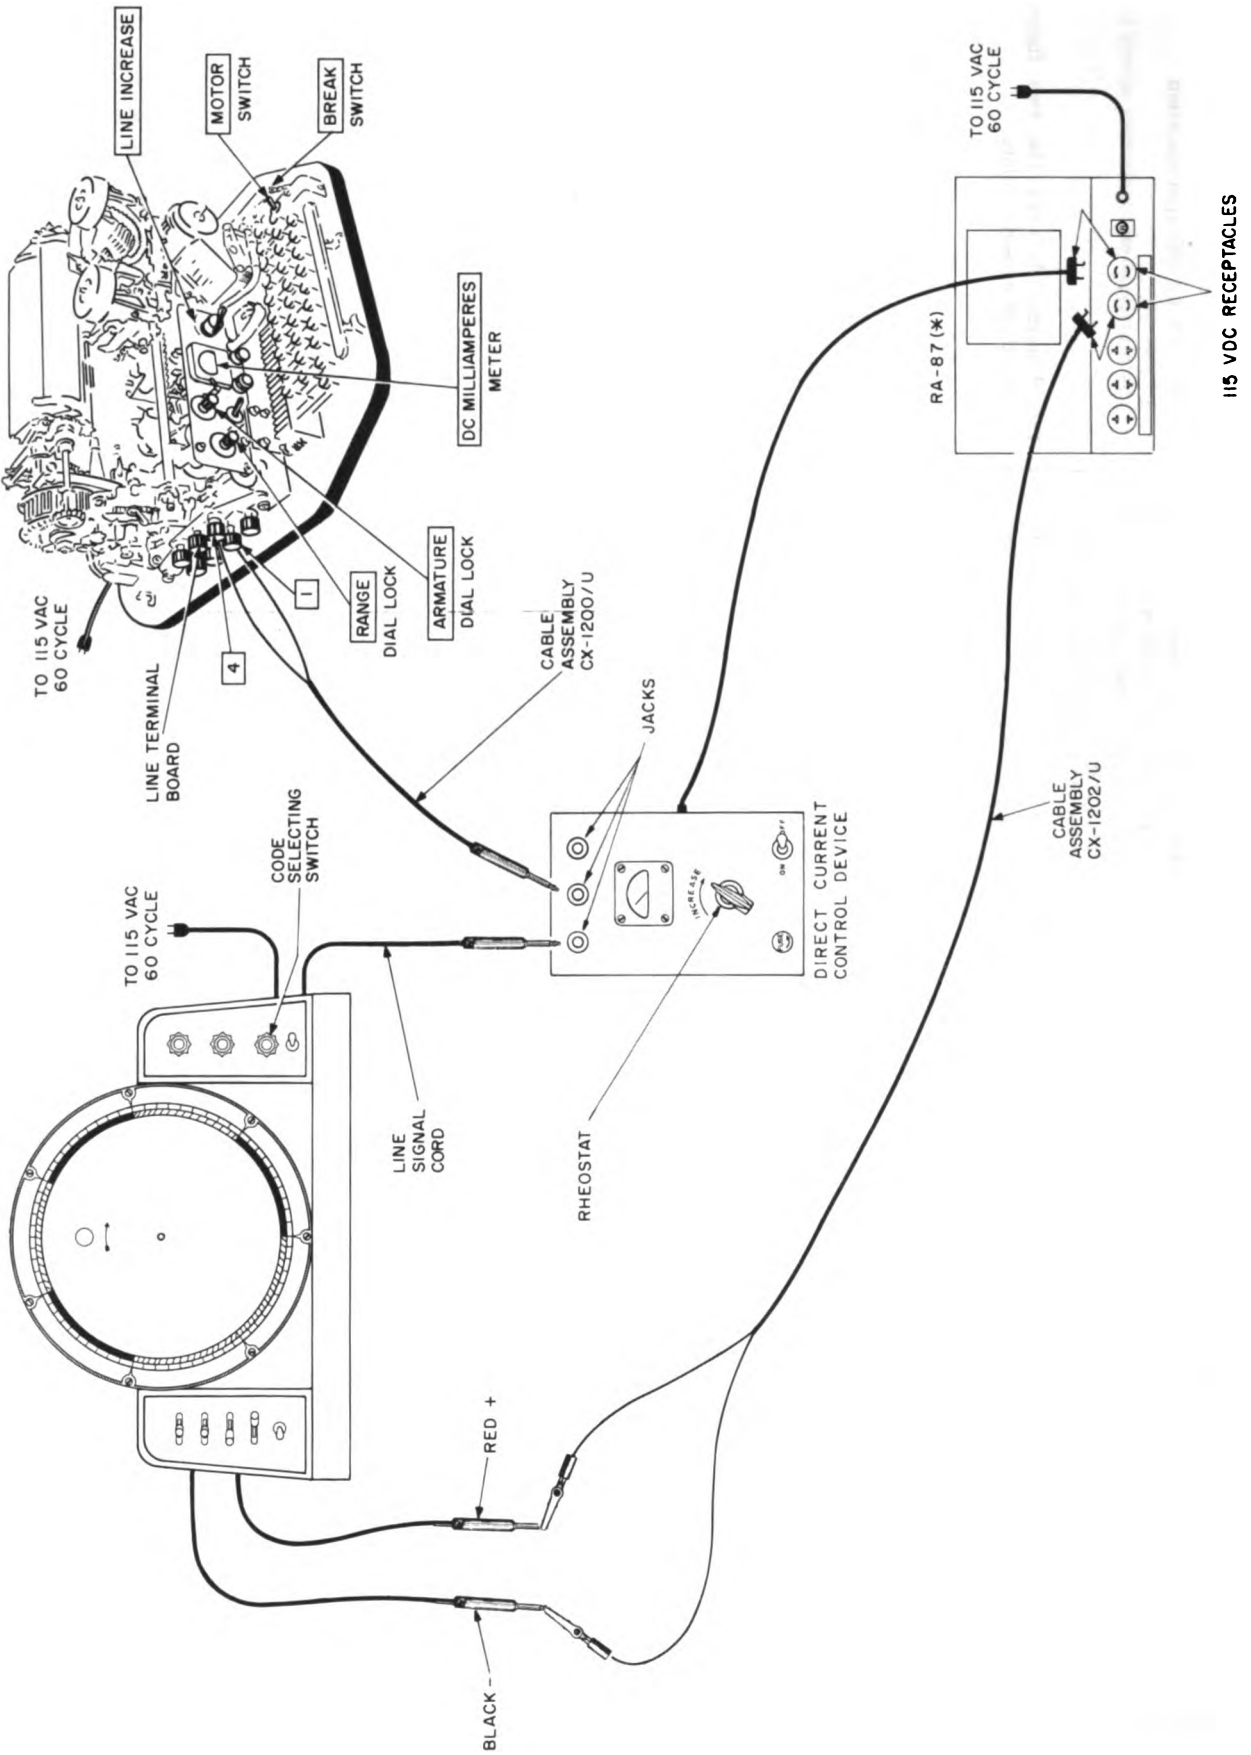

Figure 4-3. Receiving circuit, bias and end distortion tests (high-level teletypewriters only).
*b. Test Connections and Conditions.* Connect the equipment as shown in figure 4-3.